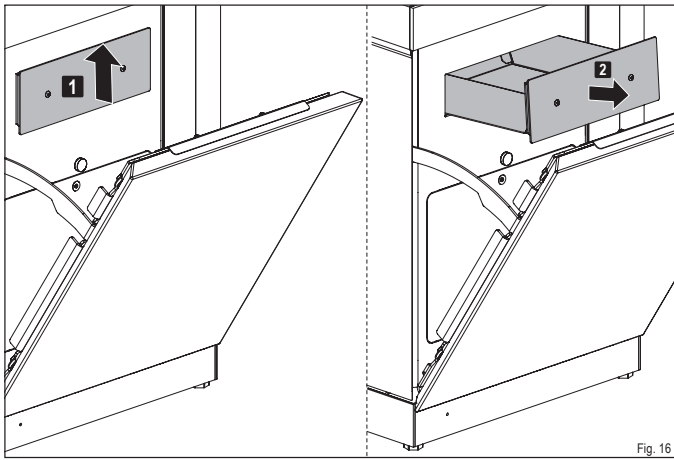

Fig. 16
- ▶ **Pull the ash drawer out of the opening by the cover (Figure 16).**
- ▶ **Pull the ash drawer out of the opening by the cover (Fig. 16). Empty the ashes into a fireproof container or vacuum out the drawer.**
- ▶ **Slide the ash drawer back into the opening (Fig. 16).**